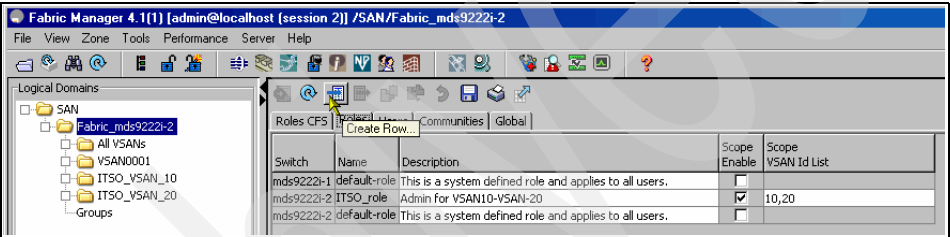

Figure 6-29 Selecting create row in the Fabric Manager
2. Select the **Roles** tab and click the create row icon, as shown in Figure 6-29.